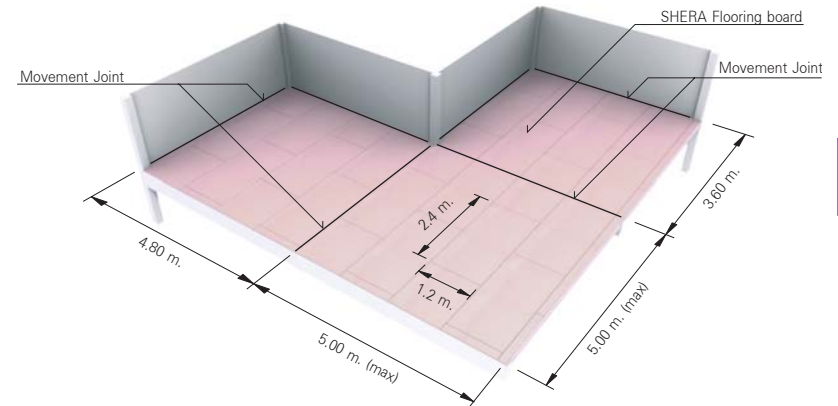

Figure 19 : Movement joint (example 2)
- Movement joint must also be provided where changes of floor direction occur; i.e. doorways, L or T shape room, and etc. Please see figure 19 for more details.